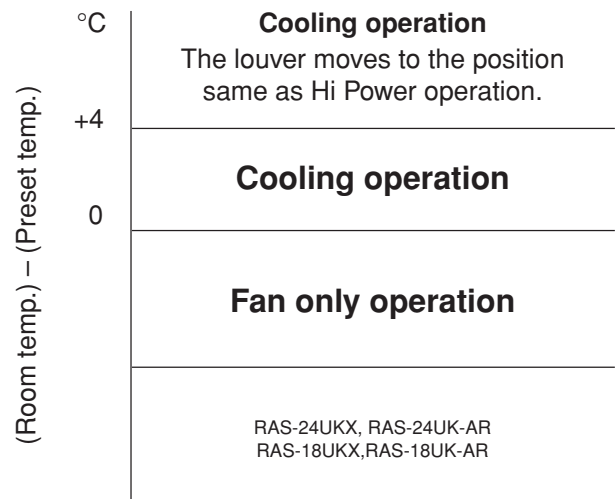

Fig. 7-2-6
- (1) One of 2 operations (Cooling or Fan only) is selected according to difference between the preset temperature and the room temperature at which the automatic operation has started, as shown in Fig. 7-2-6. The Fan only operation continues until the room temperature reaches a level at which another mode is selected.
(2) Temporary Auto
When the TEMPORARY button on the indoor unit is pushed, the preset temperature is fixed at 24°C and the indoor unit is controlled as shown in Fig. 7-2-6.